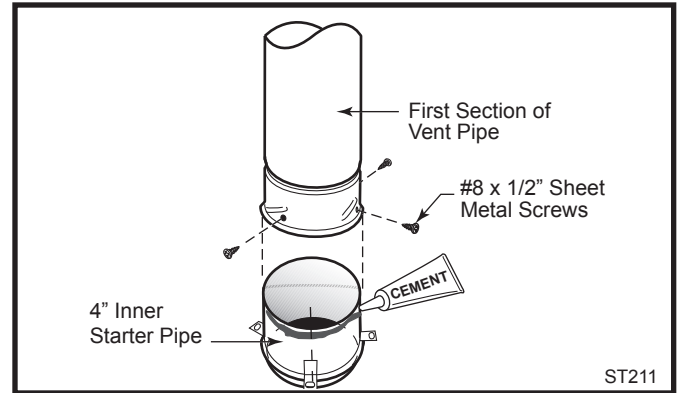

Fig. 17 Connect the inner starter with the next section of inner vent pipe.
- Drill three pilot holes into the Inner Starter and secure the assembly with three sheet metal screws. (Fig. 17)